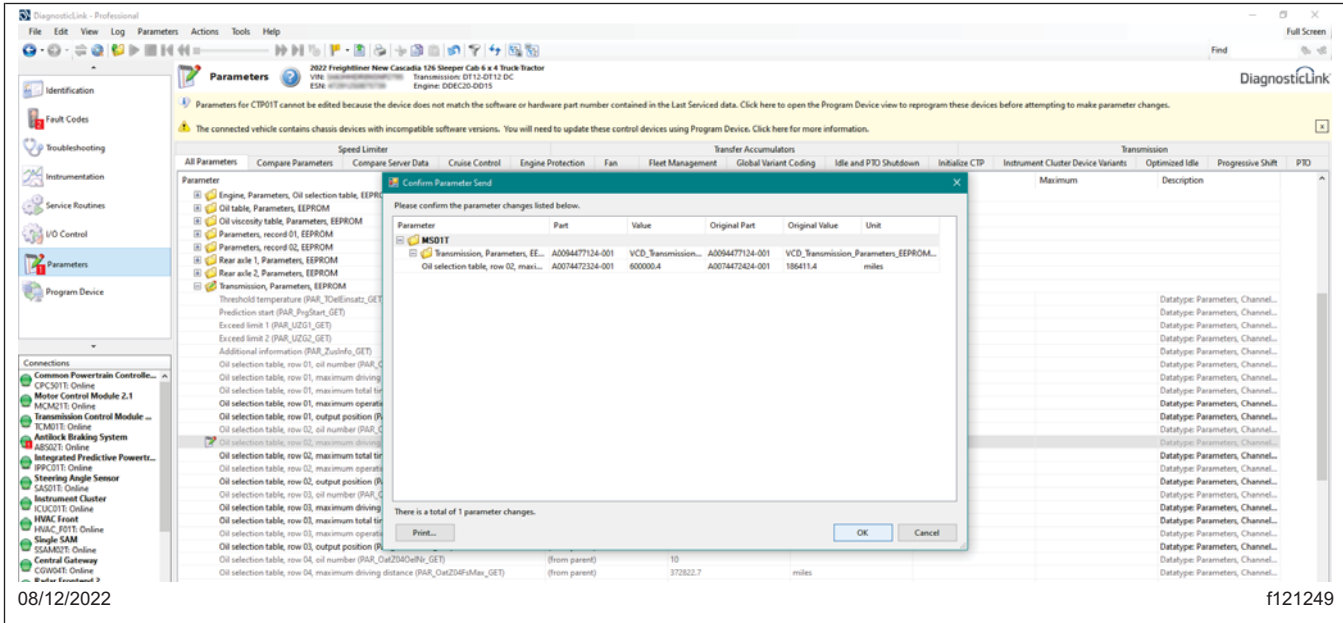

Fig. 5, Confirming Parameter Changes
9. Select 'OK' in the 'Confirm Parameter Send' dialog box. See Fig. 5.